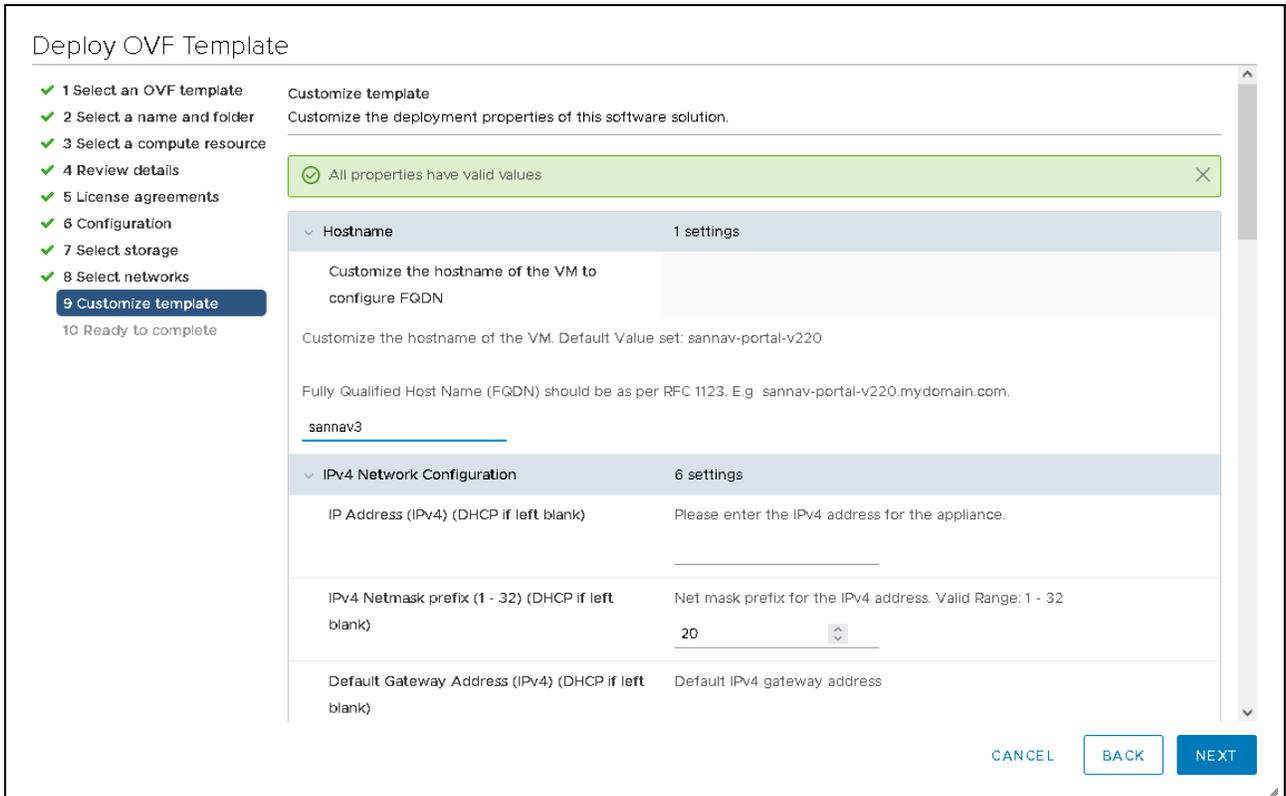

Figure 3-14 Customizing the template hostname and IPv4
2. You can customize the settings for the virtual appliance that are related to your environment. Change the hostname, network settings, DNS, and SSH port of the SANnav server, as shown in Figure 3-14 and Figure 3-15 on page 50:
The default hostname is set to something similar to sannav-portal-v220. If you want to change this name, you can enter a new name or the FQDN. This hostname and FQDN must be resolved by your DNS, or the SANnav installation will fail. An example is shown in Figure 3-14.